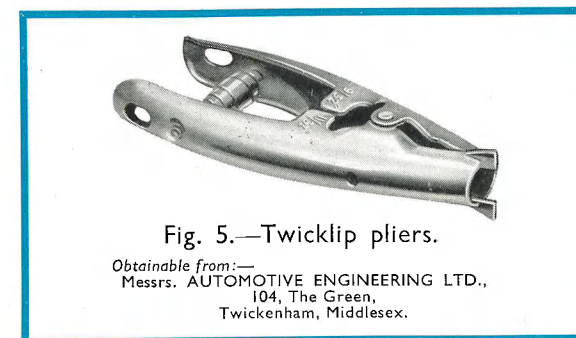

Fig. 5.—Twicklip pliers.
* Using the special Twicklip pliers shown on Fig. 5 in the manner indicated on Fig. 4.